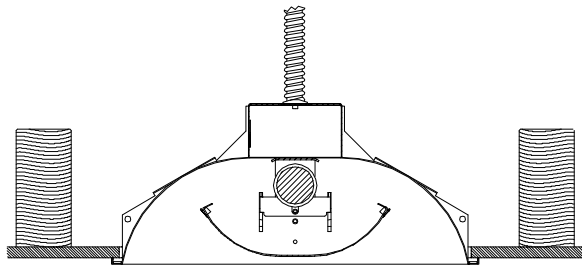

FIGURE 3
3. LIFT LUMINAIRE INTO OPENING UNTIL FLUSH WITH DRYWALL CEILING AS SHOWN. (FIG. 3)